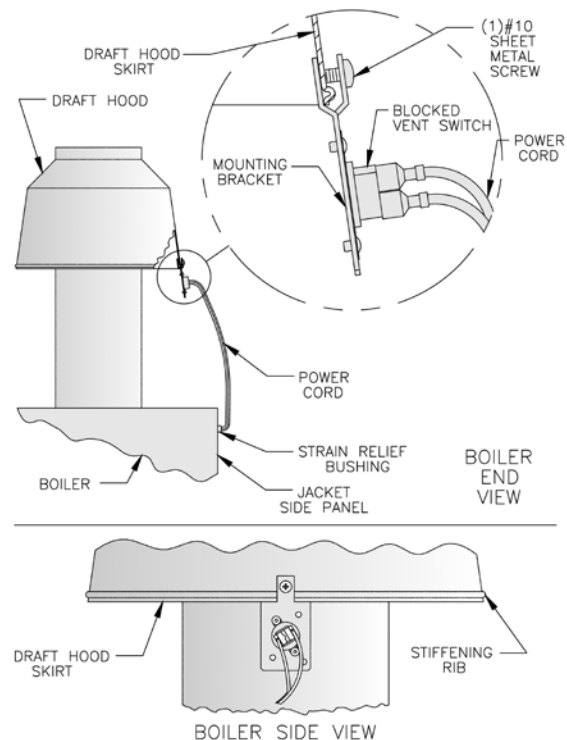

Figure 6
- C. Position the mounting bracket (with switch attached) onto the lower edge of the draft hood skirt by locating the center tooth (with the #10 sheet metal screw) on the outside and the other two teeth inside the draft hood skirt. See Figure 6.
- H. Be sure the power cord, mounting bracket, and switch are secure and located as shown in Figure 6.